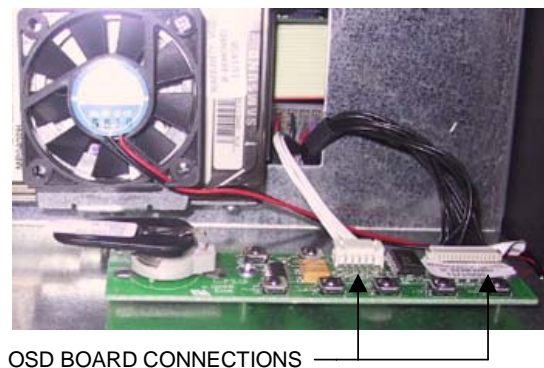

FIGURE 6 - OSD BOARD
5. Disconnect the 2 OSD board connections. See Figure 6.
6. Reconnect the 2 OSD board connections as well as the 2 fan connections. See Figure 6.